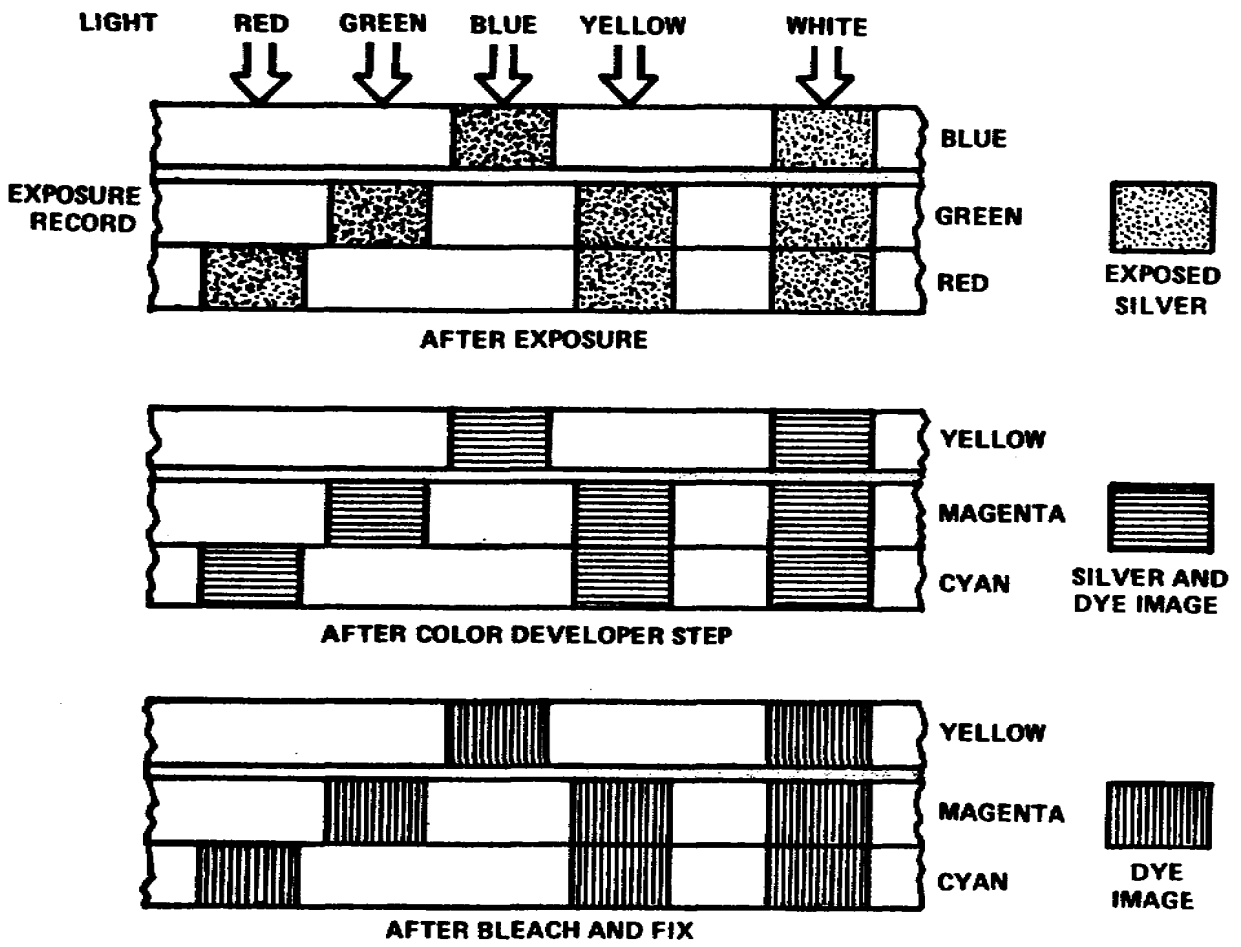

Figure 1-2. Color negative film, exposure and processing effects
3. In effect then, a sheet of color film is made up of three separate layers, each one sensitive to or able to record only one of the three additive primary colors of light. Subtractive colors, such as yellow, are recorded in the two layers which form to make up the color (green and red). Green and blue light make cyan, the complement of red. Blue and red light combine to form magenta, the complement of green. These three complementary colors-cyan, magenta, and yellow, known as the subtractive primaries, are the colors of the dye layers formed in an exposed and processed color negative (fig 1-2).